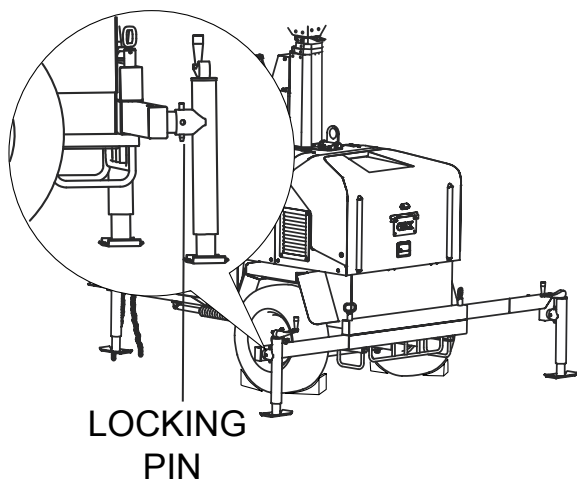

Figure 5. Pulling the Locking Pin
2. Extend all the outriggers by pulling the locking pin on the outriggers and hold while sliding out the outriggers assembly (Figure 5).